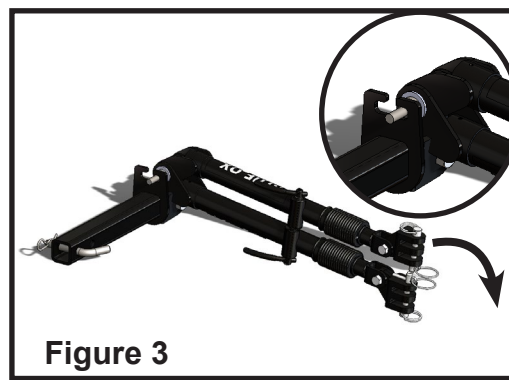

Figure 3
3. Rotate the legs down to either side until the hold up bolt engages completely to the side of the hitch connector slot (Figure 3).